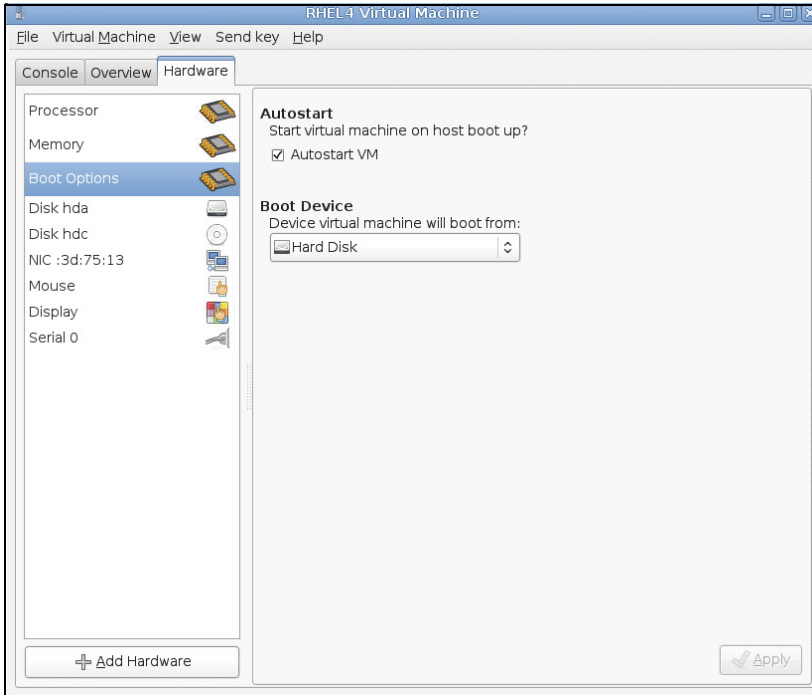

Figure 102. RHEL 4 Virtual Machine Monitor
Virtual machine monitor (VMM) is an administrative console which monitors and manages guest machines. To make every virtual machine (VM) start automatically, select the “Autostart VM” check box as shown in Figure 102. It is located in VMM (**Hardware > Boot** option) of every VM.